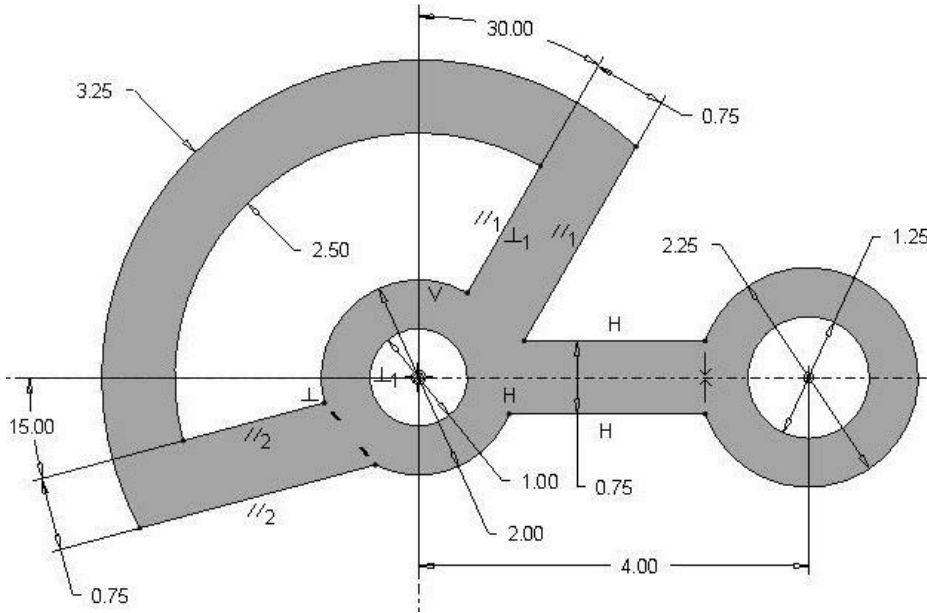

Figure 3-78 Problem 9
- 3.9 Draw the adjustable sector (Figure 3-78). **Design Intent**—The two holes need to be 4.00 inches apart. The angular slot needs to be 30 degrees clockwise of vertical to 15 degrees counter-clockwise of horizontal. To reduce stresses round all sharp corners using a 1/4-inch round or fillet. (Filletlets and rounds are not shown in the figure.)